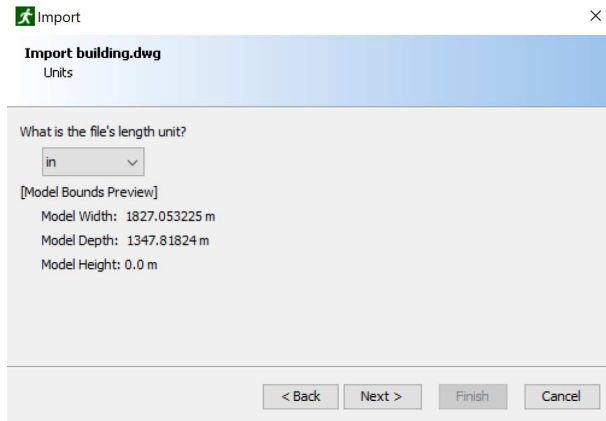

Figure 70. CAD import dialog (units)
2. After selecting a file, a step-by-step dialog will open as shown in Figure 70.